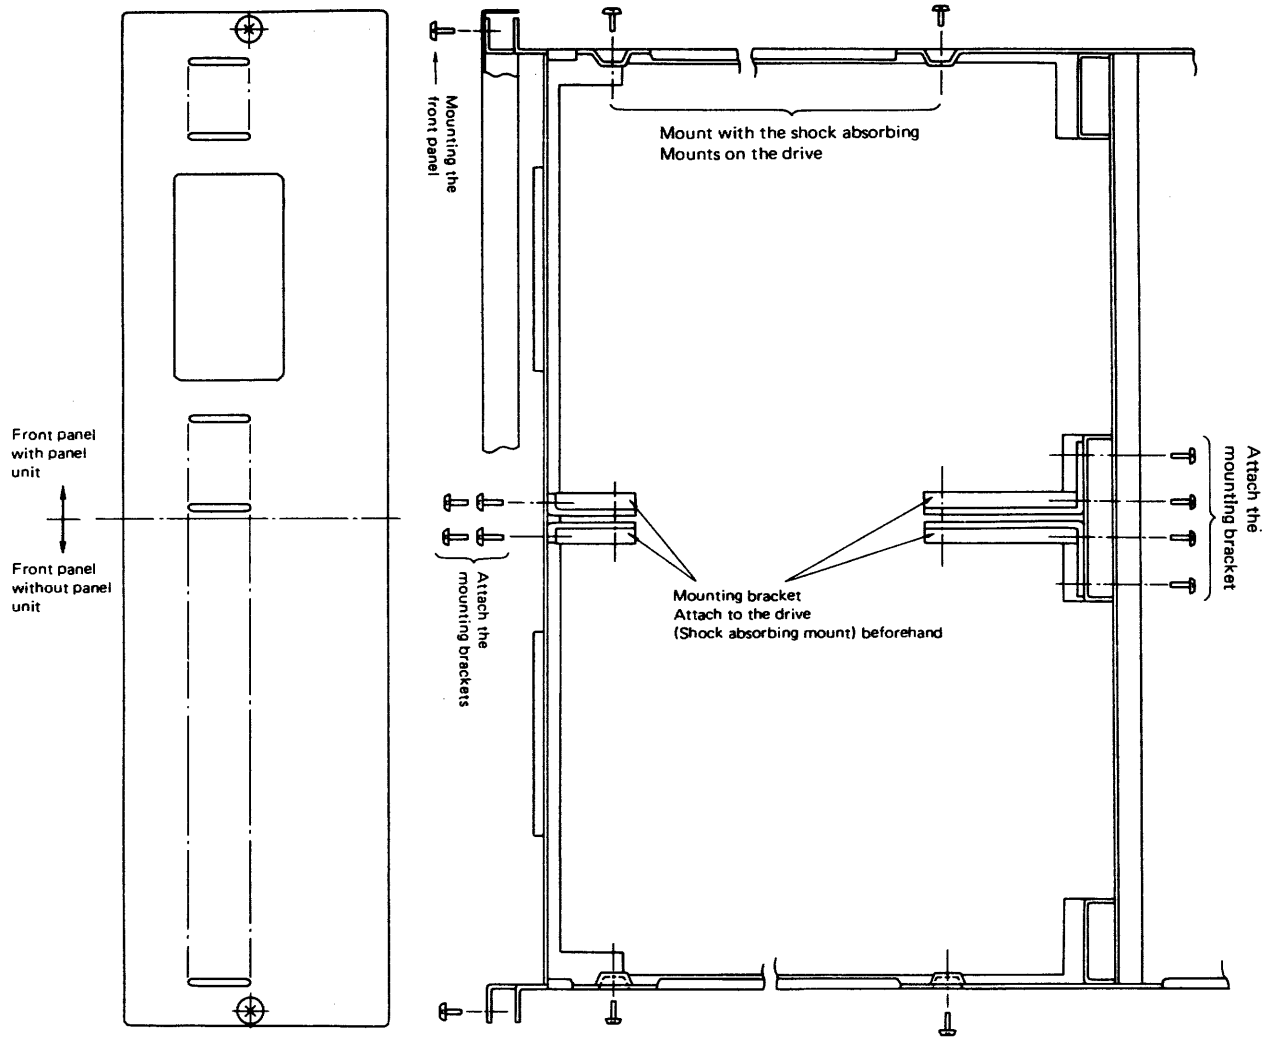

Figure 2.17 Mounting drive
- ② Set the drive on the mounting tray. The drive can temporarily ride on the front and back beams of the installation frame (inner rail) without manual support using the mounting brackets and 4 cushion supports in the front and back. (See Figure 2.17.) Therefore, even one person can install the drive unit on the mounting tray either removed or on the rack (pulled-out).
- ③ If the panel unit is required, mount it. See item (c).
- ④ Mount the front panel